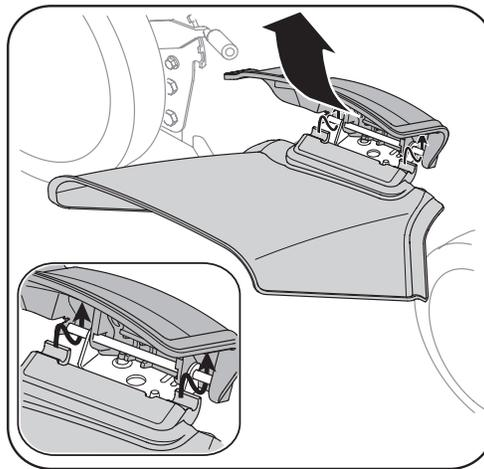

Figure 6
- a. On the side of the mower deck, lift the hinged mulching plug. See Figure 6.